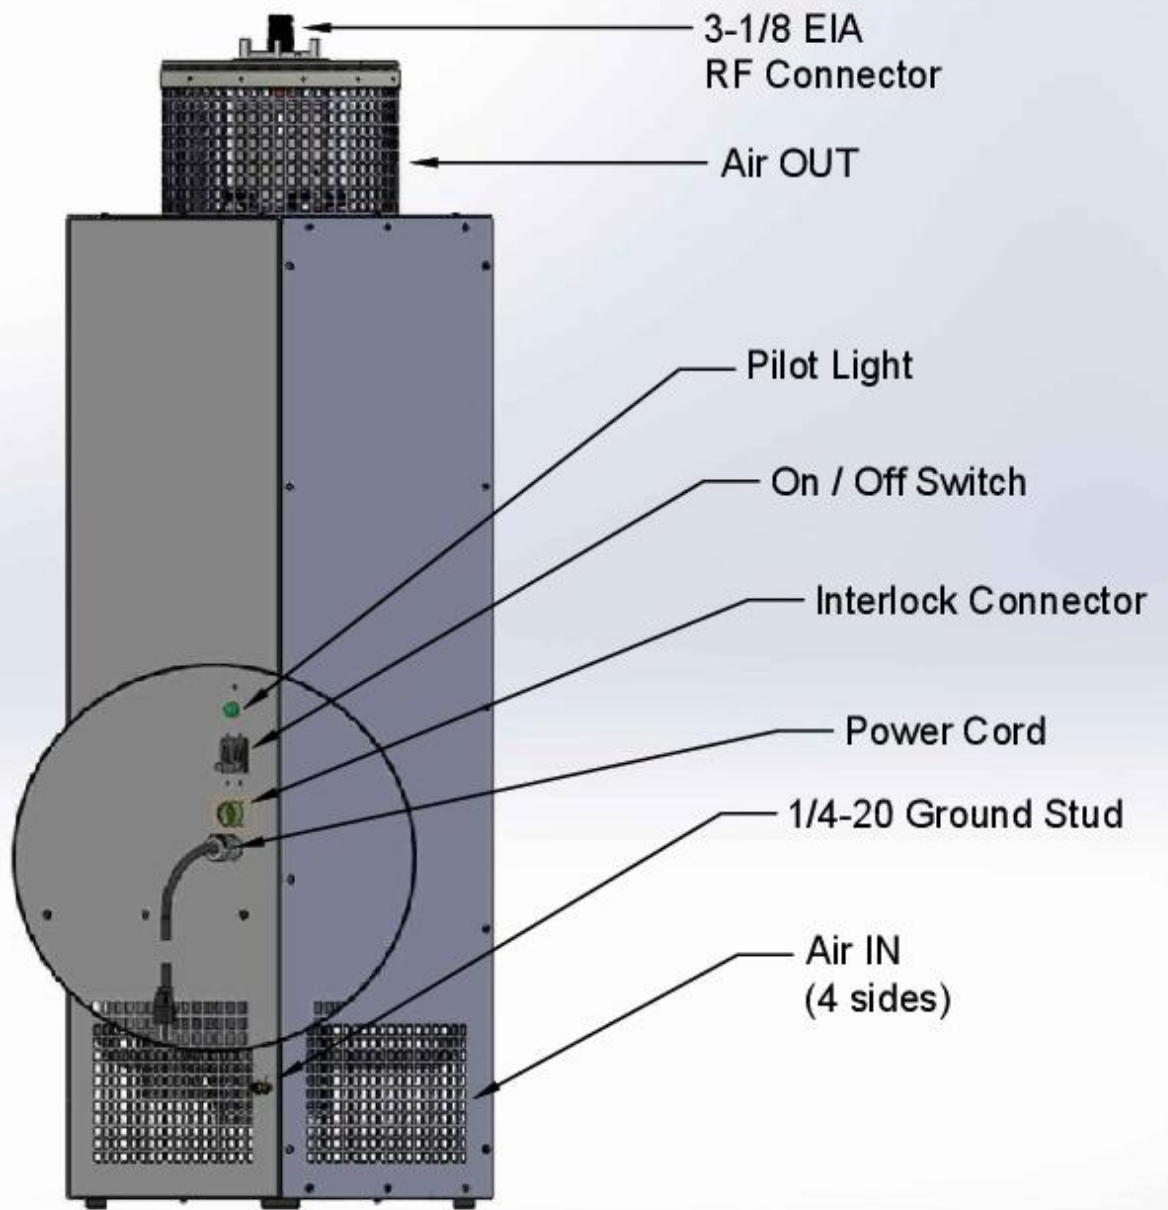

Figure 1. Component Location
3. Use unit grounding stud to provide a secure electrical ground separate from AC power cord. See Figure 1.